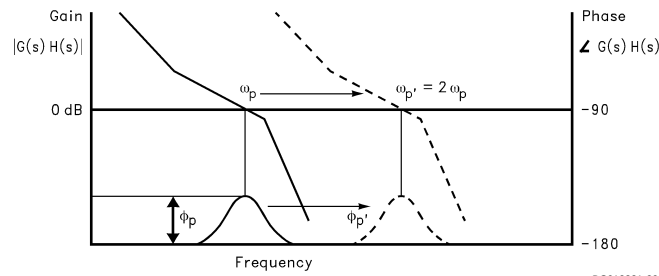

FIGURE 4. Open Loop Response Bode Plot
A plot of the magnitude and phase of $G(s)H(s)$ for a stable loop, is shown in *Figure 4* with a solid trace. The parameter ϕ_p shows the amount of phase margin that exists at the point the gain drops below zero (the cutoff frequency ω_p of the loop). In a critically damped system, the amount of phase margin would be approximately 45 degrees.
If we were now to redefine the cut off frequency, ω_p' , as double the frequency which gave us our original loop bandwidth, ω_p , the loop response time would be approximately halved. Because the filter attenuation at the comparison frequency also diminishes, the spurs would have increased by approximately 6 dB. In the proposed Fastlock scheme, the higher spur levels and wider loop filter conditions would exist only during the initial lock-on phase—just long enough to reap the benefits of locking faster. The objective would be to open up the loop bandwidth but not introduce any additional complications or compromises related to our original design criteria. We would ideally like to momentarily shift the curve of *Figure 4* over to a different cutoff frequency, illustrated by the dotted line, without affecting the relative open loop gain and phase relationships. To maintain the same gain/phase relationship at twice the original cutoff frequency, other terms in the gain and phase *Equations (5), (6)* will have to compensate by the corresponding " $1/\omega$ " or " $1/\omega^2$ " factor. Examination of *Equations (3), (4), (6)* indicates the damping resistor variable $R2$ could be chosen to compensate the " ω " terms for the phase margin. This implies that another resistor of equal value to $R2$ will need to be switched in parallel with $R2$ during the initial lock period. We must also ensure that the magnitude of the open loop gain, $H(s)G(s)$ is equal to zero at $\omega_p' = 2\omega_p$. K_{VCO} , K_ϕ , N , or the net product of these terms can be changed by a factor of 4, to counteract the ω^2 term present in the denominator of *Equations (3), (4)*. The K_ϕ term was chosen to complete the transformation because it can readily be switch between 1X and 4X values. This is accomplished by increasing the charge pump output current from 1 mA in the standard mode to 4 mA in Fastlock.